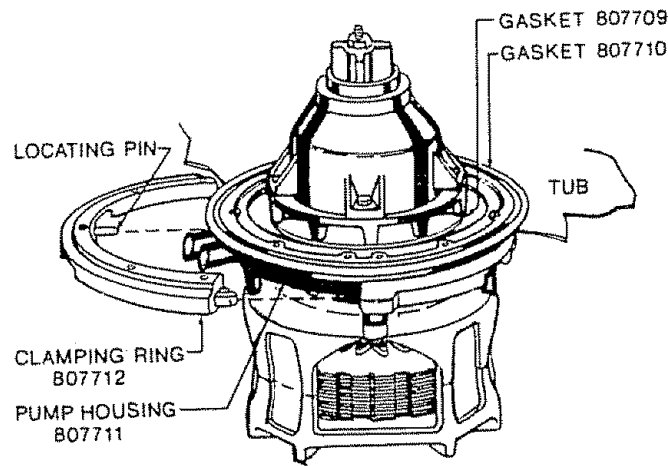

FIGURE 40
7. Separate halves of clamping ring from pump housing (access compartment). See Figure 40